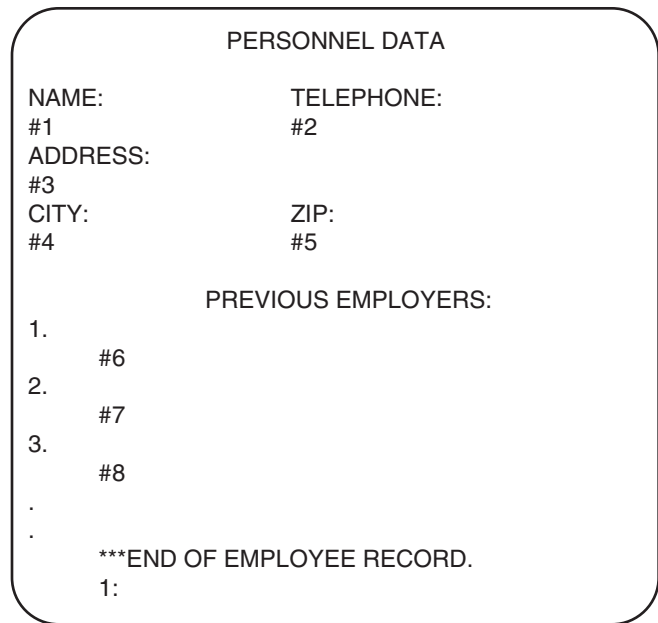

Figure 8-1. Formatted Screen Printout — With Field Identifiers.
- **SCREEN PRINT SWITCH** — Generally, for formatted output applications, it is useful to view an entire screen at one time. This is a familiar situation on CRT terminals. The operator can advance from one input field to the next using the <TAB> key. On hardcopy terminals, viewing this kind of screen information requires an alternate implementation. The Screen Print Switch governs whether or not the contents of a complete screen are printed on the hardcopy terminal. With this switch set ON a complete display screen is printed before the user is permitted to make entries. Examples of this feature are illustrated in Figures 8-1 and 8-2.
- **FIELD ID SWITCH** — The Field ID Switch is provided to assist in the identification of unprotected field locations in formatted data applications. If this feature is OFF, formatted screen printout appears much like it does on actual CRT terminals. Compare Figure 8-2, Field ID ON, to Figure 8-1, Field ID OFF, to decide which is more useful.
The printout of formatted data may appear in one of two ways, as illustrated in Figures 8-1 and 8-2. With the Field ID Switch turned ON, the LinkUp 3174 provides numeric IDs for unprotected input fields on alternate lines of the output (Figure 8-1). If Field ID is disabled, the same display screen will appear like the one illustrated in Figure 8-2.